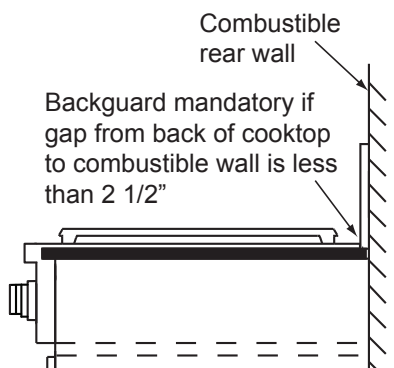

FIGURE 2
- Installation of a non-combustible material (up to the hood) or a backsplash is always recommended, and mandatory if the distance to the back wall from the rangetop is less than 2 1/2" (Figure 2). When installing a backguard, use only Dacor model numbers AEB3609, AEB3612 (DYRTP366), AEB4809 or AEB4812 (DYRTP486). Consult local codes and ordinances for acceptable non-combustible materials.